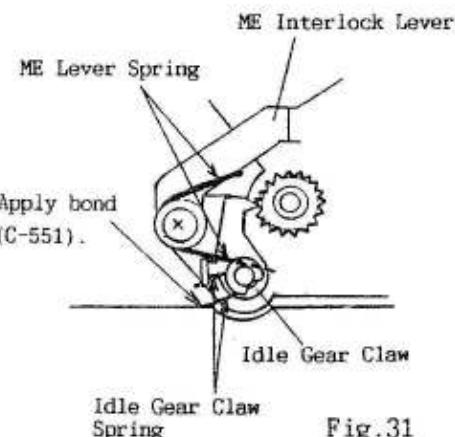

Fig.31
- 37) Set the ME Lever Spring as shown in Fig.31.
- 38) Set the Idle Claw Spring as shown in Fig.31 and lock the body-side end of the Idle Gear Claw Spring with bond (C-551).